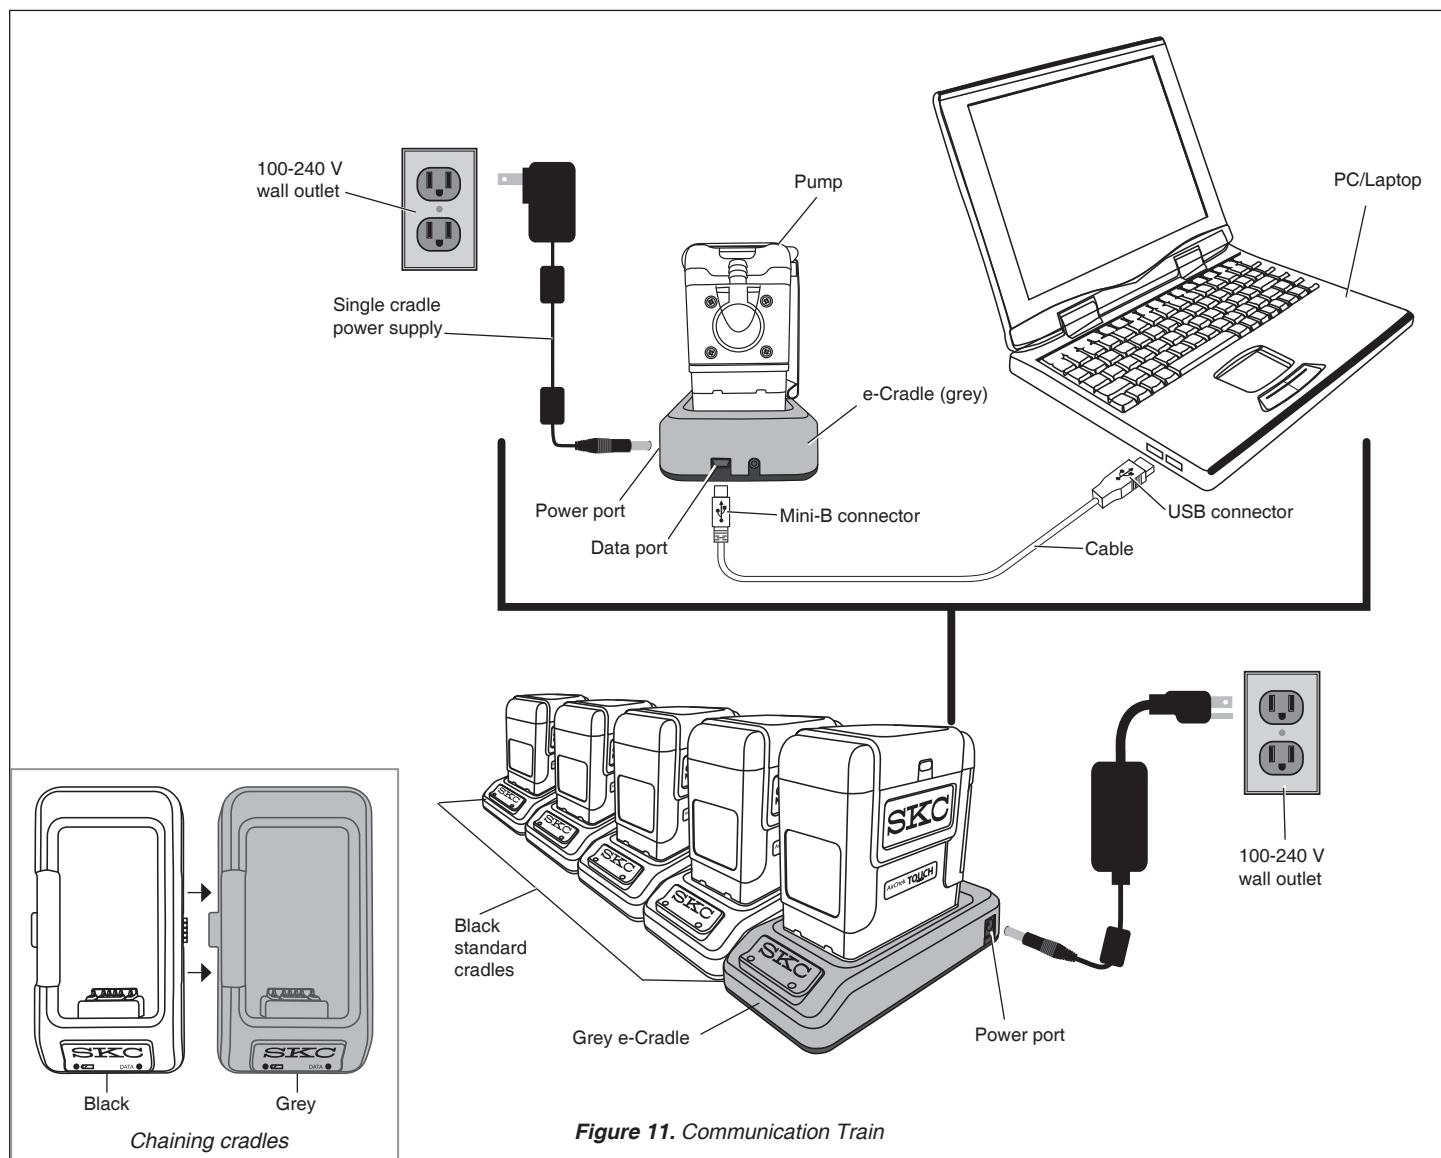

Figure 11. Communication Train
- a. **Single e-Cradle:** Ensure cradle is connected to a Single Cradle Power Supply (see Figure 2). Insert Mini-B end of communication cable into port on back of Charging e-Cradle. Insert USB end of cable into USB 2.0A port on PC. See Figure 11.